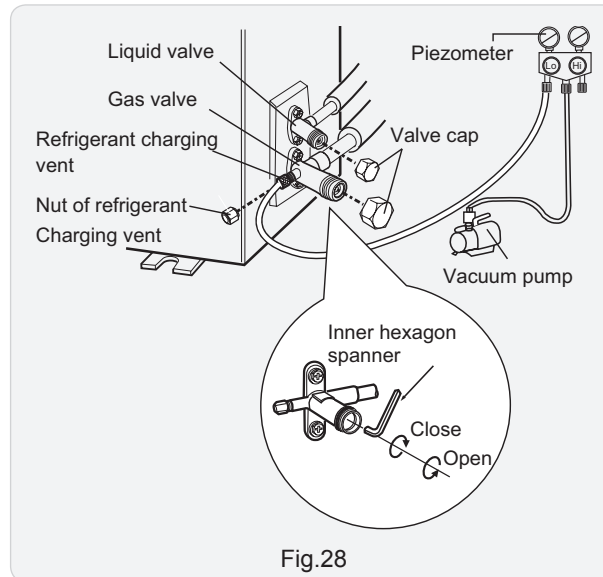

Fig.28
- (1) Remove the valve caps on the liquid valve and gas valve and the nut of refrigerant charging vent.
- (2) Connect the charging hose of piezometer to the refrigerant charging vent of gas valve and then connect the other charging hose to the vacuum pump.
- (3) Open the piezometer completely and operate for 10-15min to check if the pressure of piezometer remains in -0.1MPa.
- (4) Close the vacuum pump and maintain this status for 1-2min to check if the pressure of piezometer remains in -0.1MPa. If the pressure decreases, there may be leakage.
- (5) Remove the piezometer, open the valve core of liquid valve and gas valve completely with inner hexagon spanner.
- (6) Tighten the screw caps and refrigerant charging vent.(As show in Fig.28)